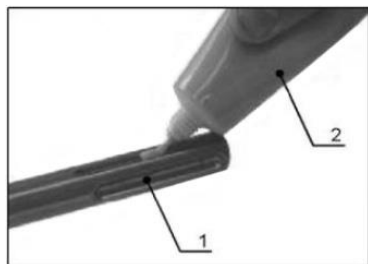

Fig. 2
1. Clean the tool shank (item 1. Figure 2) and lightly grease with grease grease (Item 2, Figure 2).